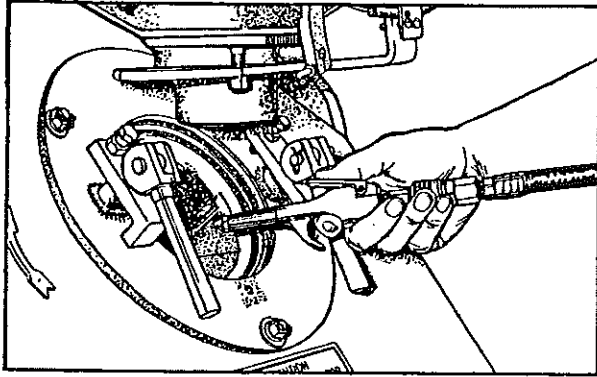

Figure 6. Clean Wheel with Compressed Air.
- a. Use compressed air from dust collector compressor to blow out dirt, shot and contaminants from the wheel. Blow out center hole in motor shaft to remove all abrasive from internal threads (FIG. 6).